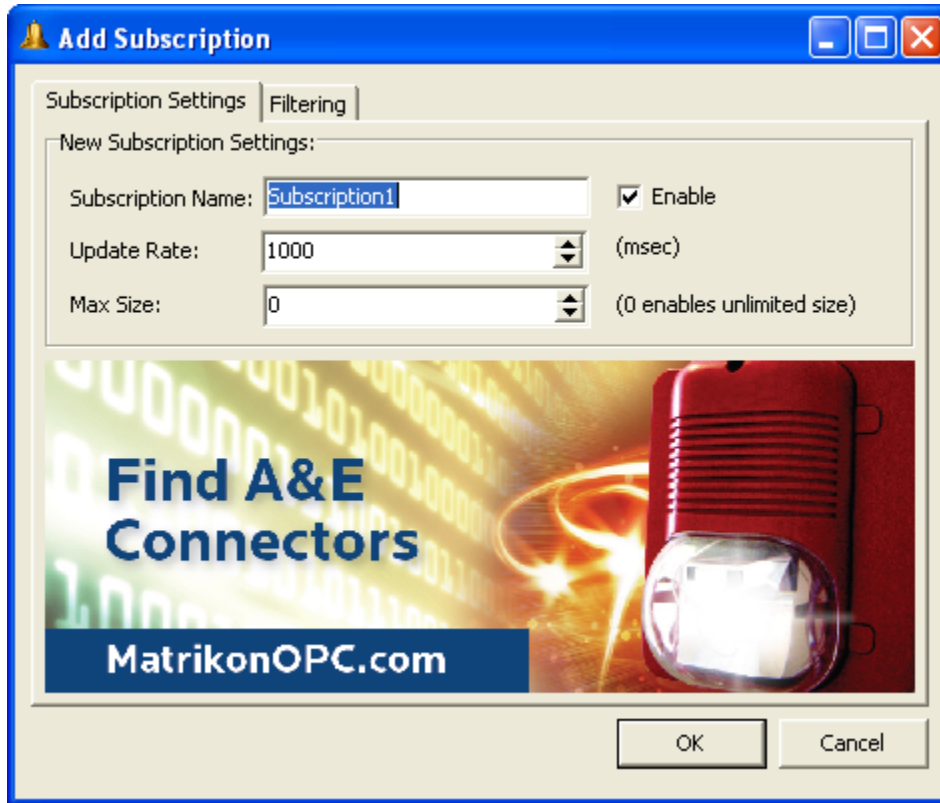

Figure 14 - Add Subscription Window (Subscription Settings Tab)
The **Subscription Settings** tab (Figure 14) is where the subscription's name, update rate, and size are defined. This tab is where you specify whether the subscription is enabled or disabled. Table 14 describes the tab components.
3. The **Add Subscription** window (Figure 14) appears.